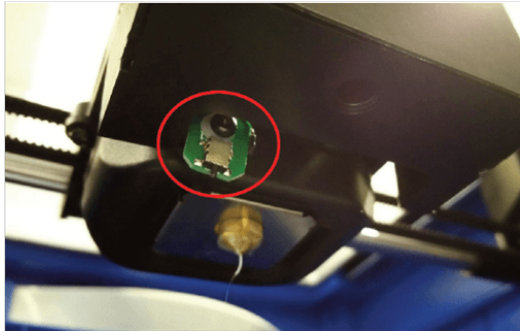

Figure 10: Rotate the levelling arm to vertical position before removing the servo motor assembly.
- b. Get a visual understanding of how the levelling arm is located and oriented in the assembly, rotate the leveling arm to vertical position (see Figure 10), and then pull the servo motor assembly vertically upwards away from the extruder.